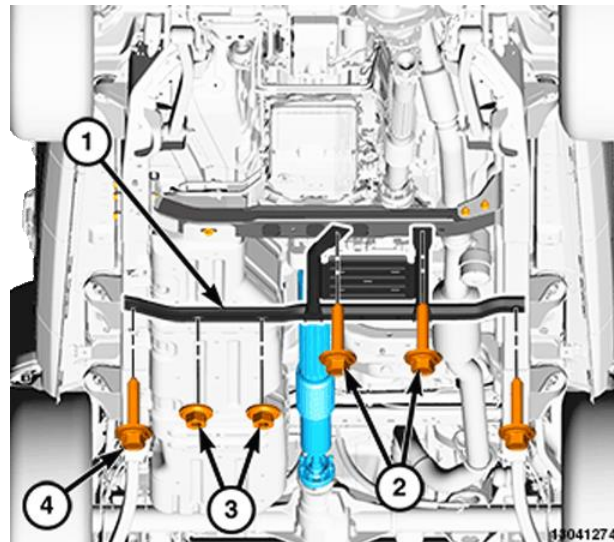

Figure 7 – Transfer Case Skid Plate
13. Remove the crossmember bolts (2) (Figure 7).
14. Remove the fuel tank strap nuts (3) (Figure 7).
15. Remove the frame bolts (4) and remove the transfer case skid plate (1) (Figure 7).
15. Install the frame bolts (4) and install the transfer case skid plate (1) (Figure 7). Tighten the bolts to 75 N·m (55 ft. lbs.).
16. Install the fuel tank strap nuts (3) (Figure 7). Tighten the nuts to 17 N·m (13 ft. lbs.).
17. Install the transmission crossmember to transfer case skid plate bolts (2) (Figure 7). Tighten the nuts to 75 N·m (55 ft. lbs.).